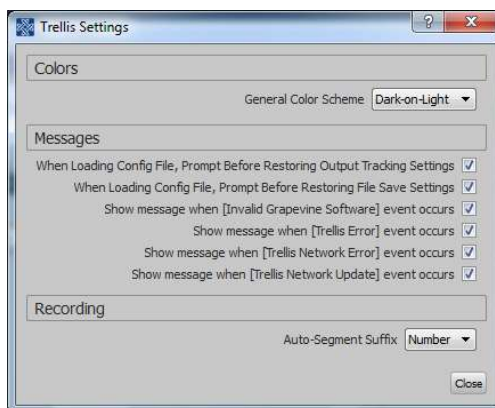
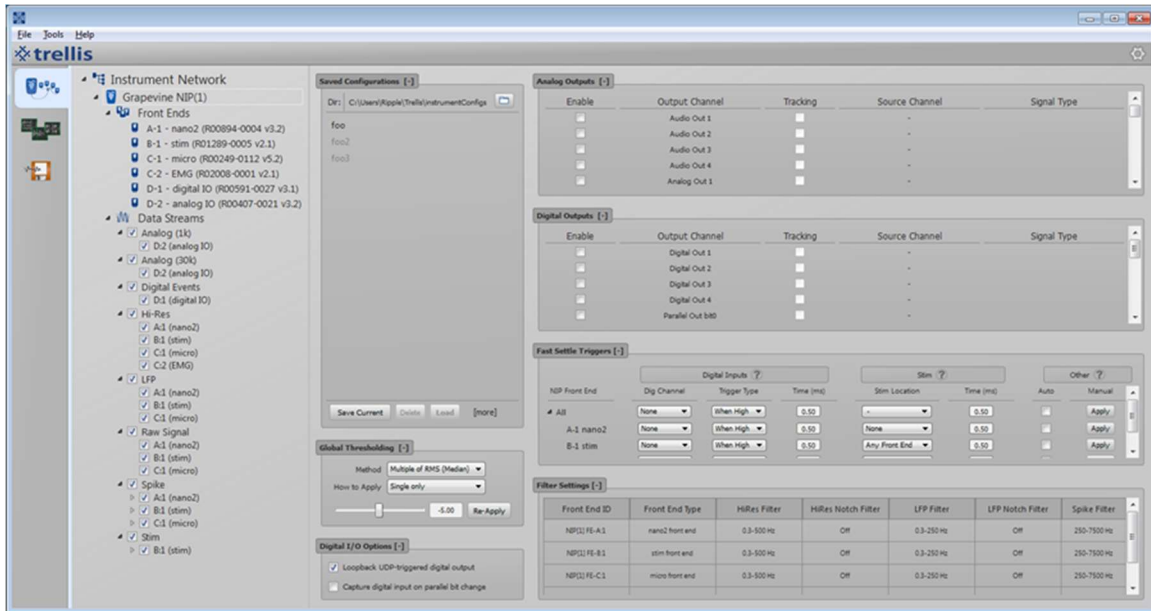

Figure 3-2 Trellis Settings window
Figure 3-7 Trellis Instruments – Grapevine system configuration
The main Trellis program presents three tabs on the left side of the window (Instruments, Applications, and File Save) that provide access to different aspects of program functionality. The color scheme for Trellis and which messages are displayed can be set from the Trellis Settings window, as shown in Figure 3-2. These options can be accessed from the Tools menu or from the Settings icon located at the top right of the Instrument Configuration panel shown in Figure 3-7.
- Information about a Grapevine system can be accessed by selecting the corresponding entity in the Instrument Network. Selecting the “Grapevine NIP(1)” item in the Instrument Network brings up an interface to configure the Grapevine NIP, as shown in Figure 3-7.
Trellis automatically detects which Front Ends (FEs) are connected to the Grapevine processor and displays the appropriate configuration panels, as shown in Figure 3-7. Each configuration panel can be expanded or collapsed by clicking the [+] or [-] symbol to the right of the panel title.